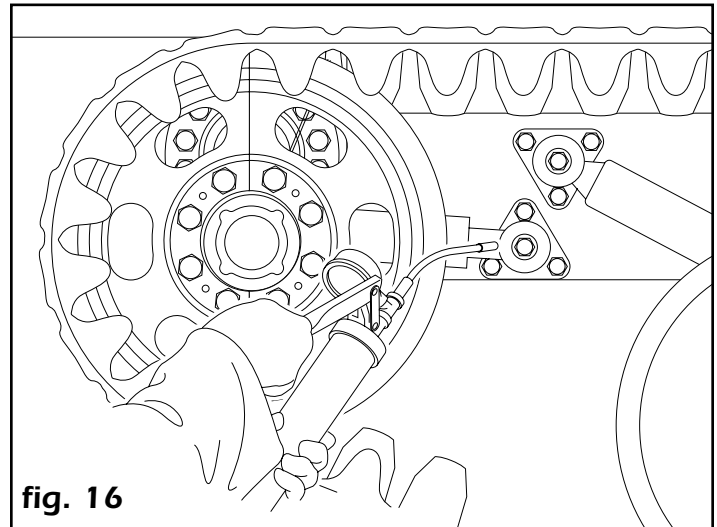

fig. 16
c.1) With the grease gun, pump grease in the cylinder until a pressure of **2500 psi** is obtained (See fig. 16)